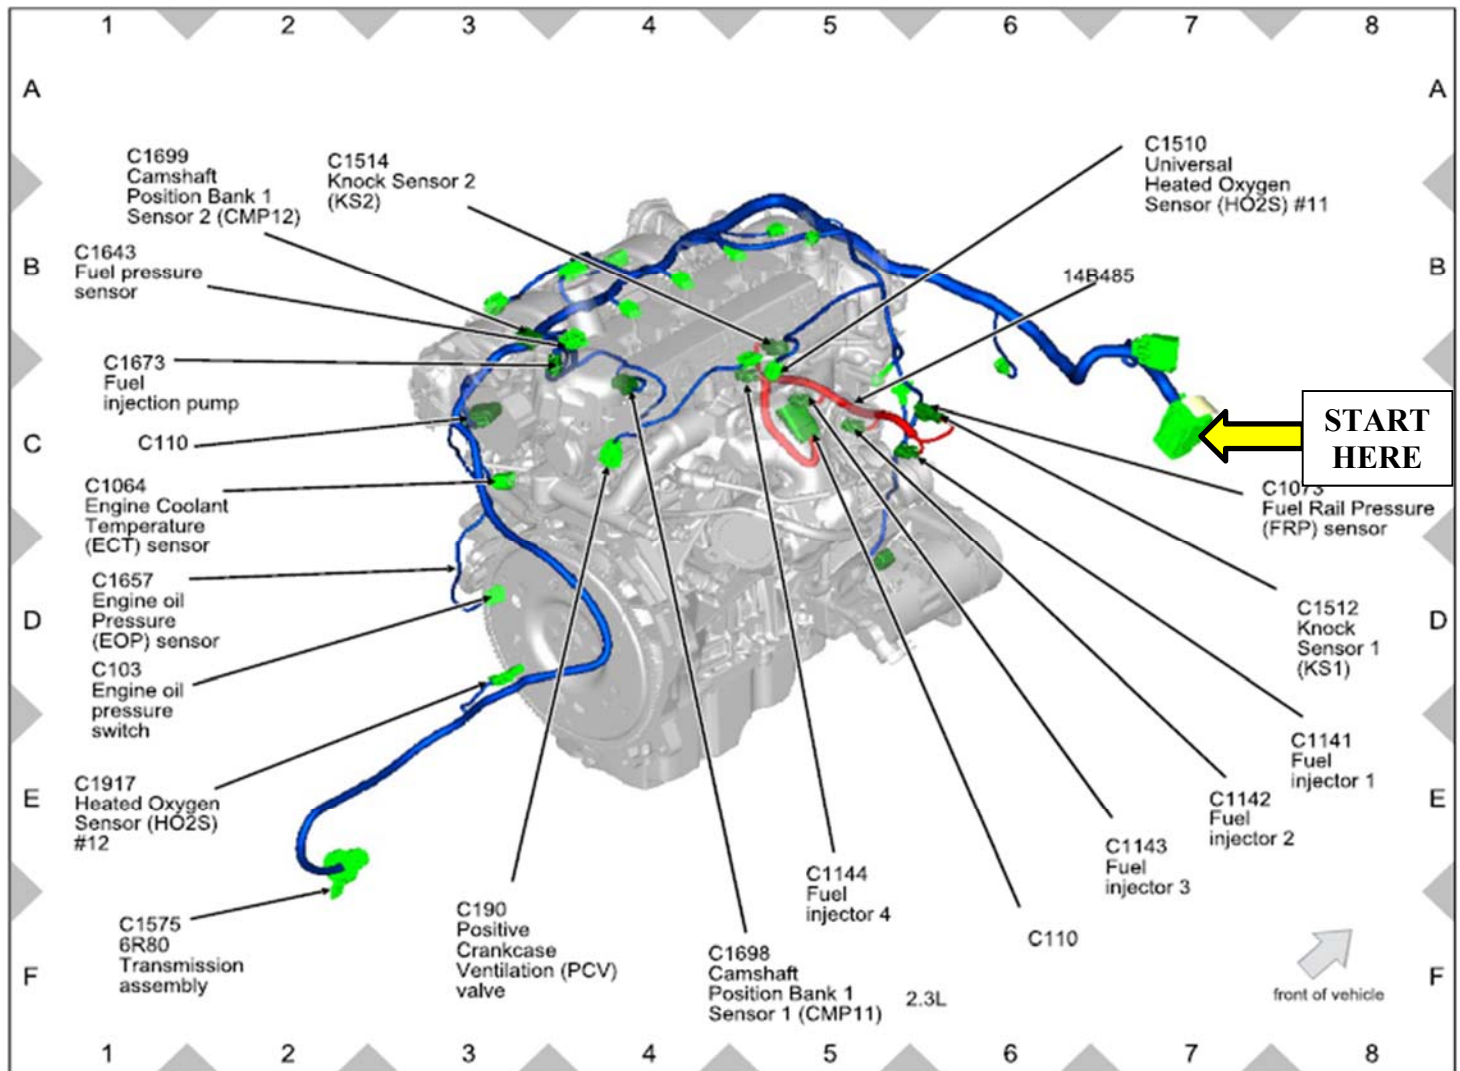

Figure 2 – Rear View of Engine.
1. Identify proper mounting location for the PCM, Power Distribution Box (Item A) & Inline Fuse Holder. Locate the PCM connector on the engine harness as indicated in Figures 2 and 3 by the "START HERE" arrow.